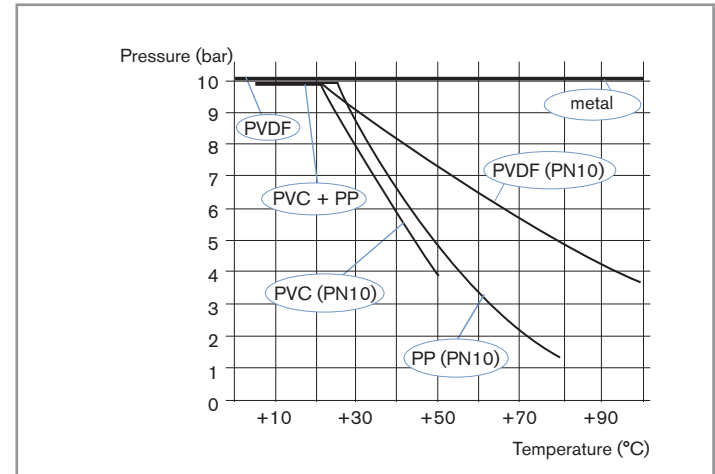

Fig. 3: Dependency between fluid pressure and fluid temperature, for the 8220 inserted in a S020 fitting, depending on the material of the S020 fitting
Fluid pressure	PN 10 Fluid temperature and material of the fitting S020 used, can limit the max. admissible pressure of the fluid (see Fig. 3)
Fluid temperature	Fluid pressure and material of the fitting S020 used, can limit the max. admissible temperature of the fluid (see Fig. 3)
- ▶ Take account of the dependency between the fluid pressure and the fluid temperature, according to the materials the fitting is made of (see Fig. 3, page 11).